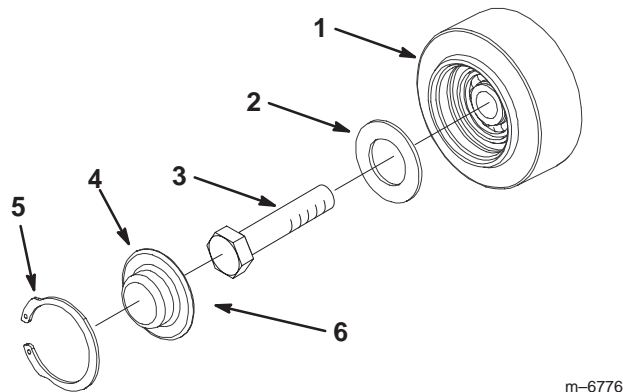

Figure 49
3. Remove the snap ring and cap from a road wheel (Fig 49).
4. Check the grease under the cap and around the gasket (Fig 49). If it is dirty, gritty, or depleted, clean out all of the grease, replace the gasket, and add new grease.
6. Place the greased road wheel cap over the bolt head (Fig 49).
7. Secure the road wheel cap with the snap ring (Fig 49).